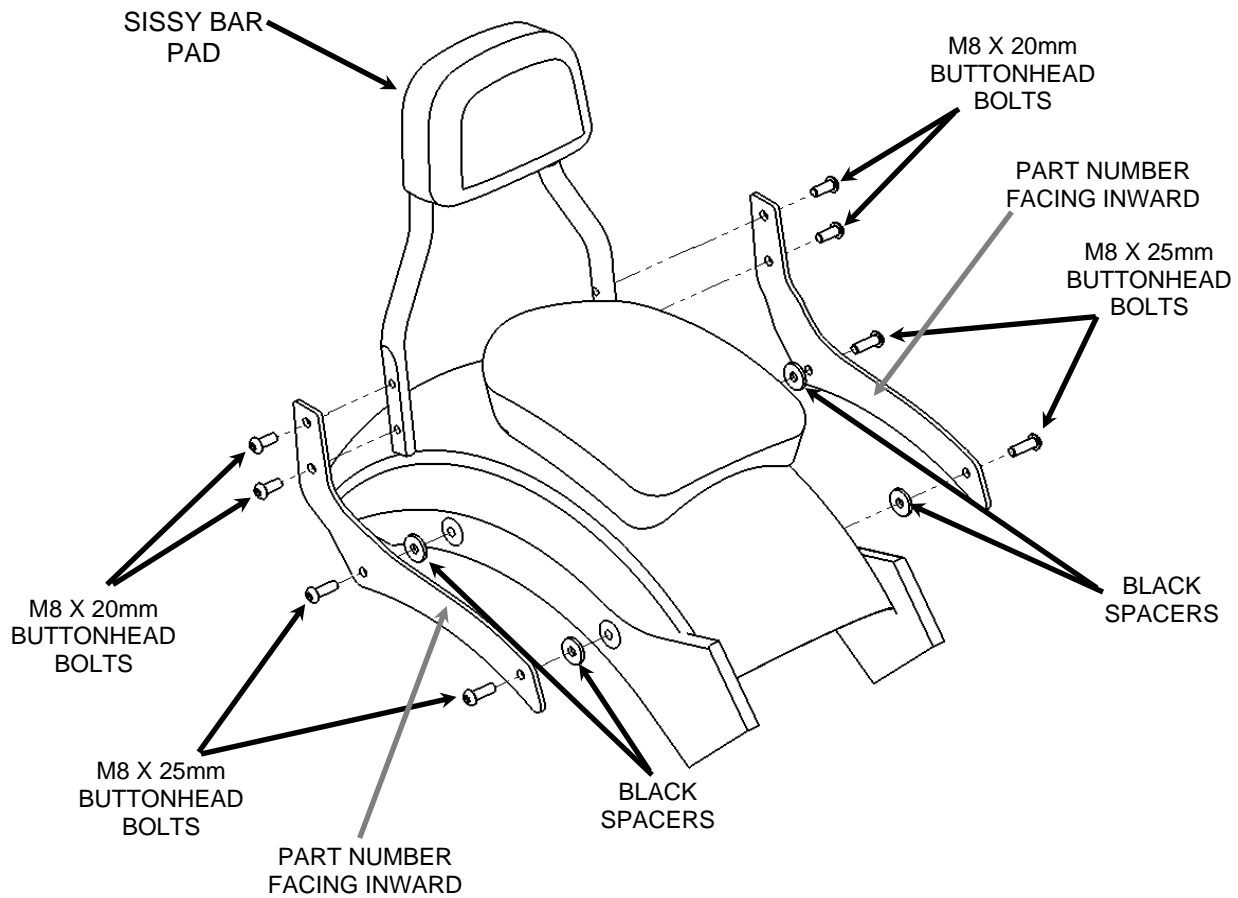

FIGURE 1
2. Apply blue Loctite to all four of the supplied M8 x 25mm bolts and then install the sissy bar brackets onto the motorcycle by inserting the bolts through the side brackets, through the provided spacers, and into the threaded bosses on the frame rail. Make sure that the part numbers on the brackets are facing inward. Snug the bolts but **DO NOT TIGHTEN** at this time. See **FIGURE 1**.
3. Install the sissy bar with pad onto the supplied side brackets with the four M8 X 20mm button head bolts. Snug the bolts but **DO NOT TIGHTEN** at this time. See **FIGURE 1**.
4. Pull backward on the top of the sissy bar and tighten all four M8 X 20mm bolts. See **FIGURE 1**.
6. Check the tightness of all (8) bolts after the first ride, after the first 500 miles, and at every engine service thereafter.